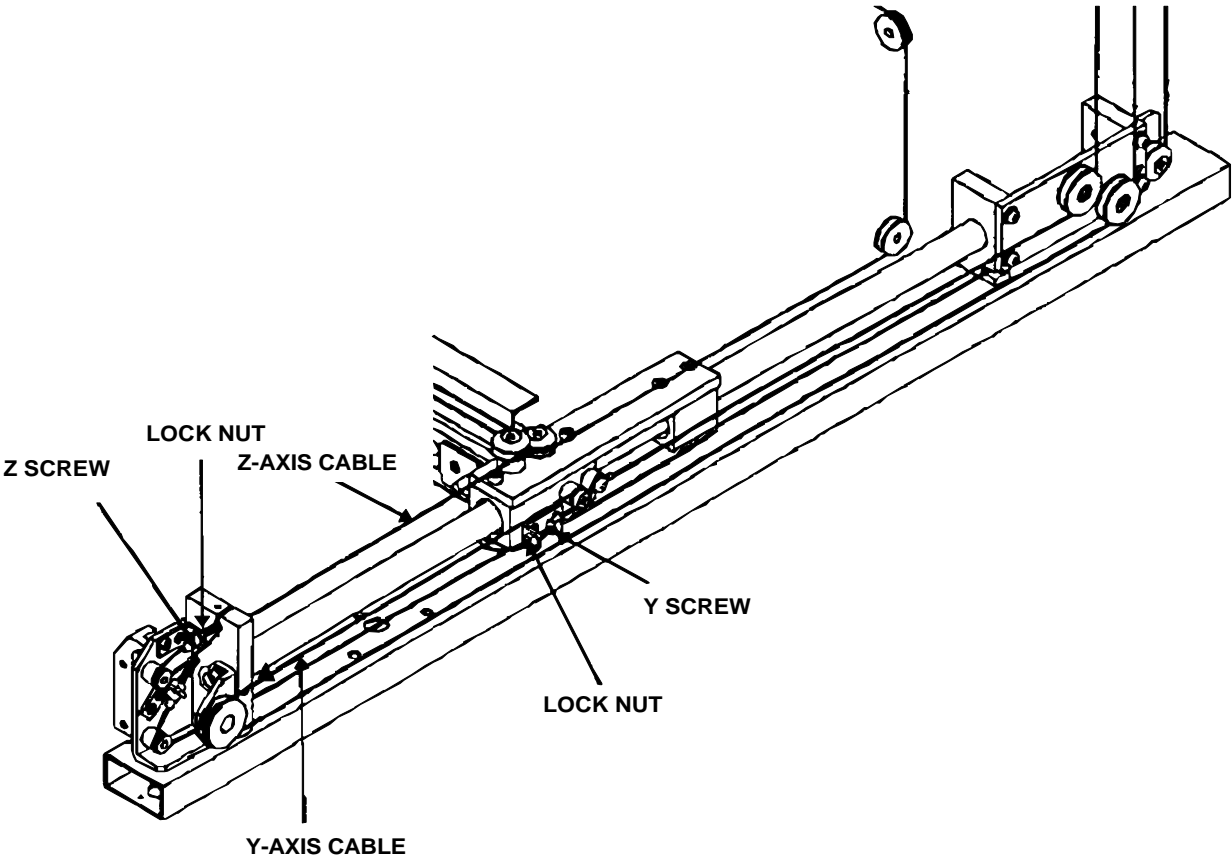

Figure 4. Z and Y Axis Cables
- 2. Identify right side Z-cable. (Refer to Figure 4.)
- 2. Identify right side Y-cable. (Refer to Figure 4.)
2. Place tension gauge on right side Z-cable. (Refer to Figures 4 and 5.)
2. Place tension gauge on right side Y-cable. (Refer to Figures 4 and 5.)